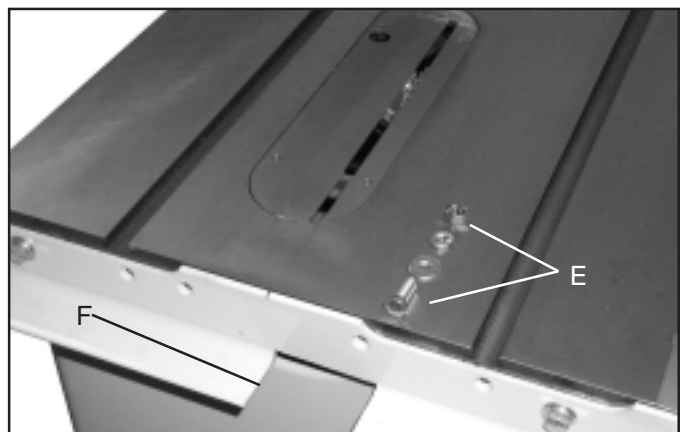

Fig. 9
For Right-tilting Delta Contractor's Saws Fasten rail to the saw using the two 3/8-24 x 1-1/4" hex head screws, lock washers, flat washers and hex nuts (E) supplied, Fig. 9. The lock washer, flat washer and hex nut will be on the inside edge of the saw table.
4. After fastening the rear rail to the saw table, tilt the saw blade to make certain there is no interference between the guard splitter and the rear rail. If there is, it will be necessary to enlarge the cut-out (F), Fig. 9, in the rear rail.